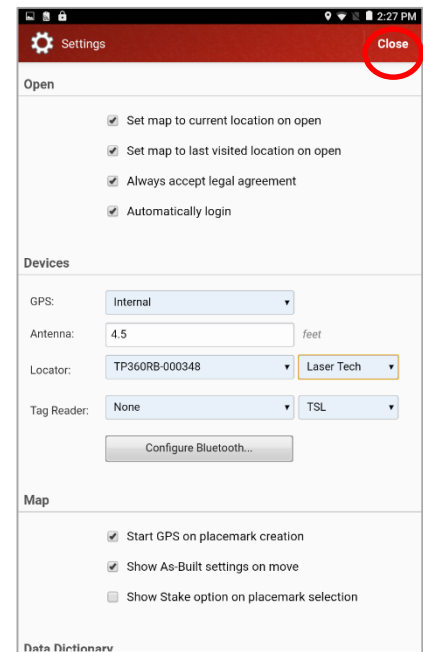

Figure 8
8. Confirm all settings are correct and tap **Done** (Figure 8)